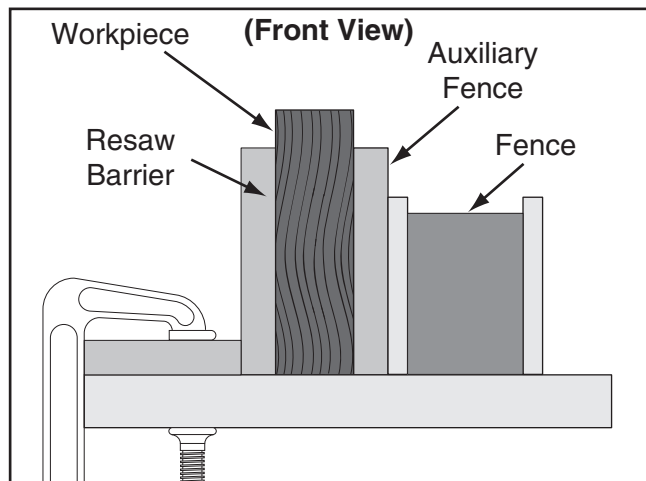

Figure 67. Ideal resaw workpiece setup.
5. Place workpiece against auxiliary fence and slide resaw barrier against workpiece, as shown in **Figure 67**. Now clamp resaw barrier to top of table saw at both ends.